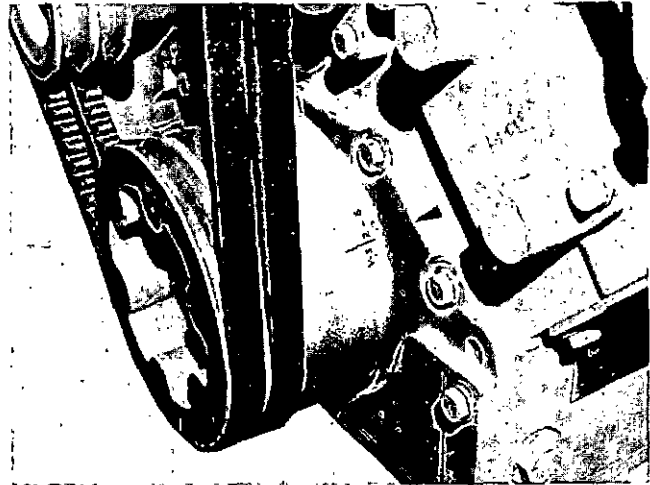
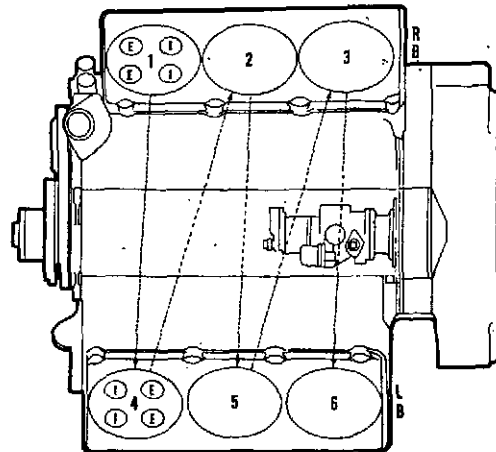
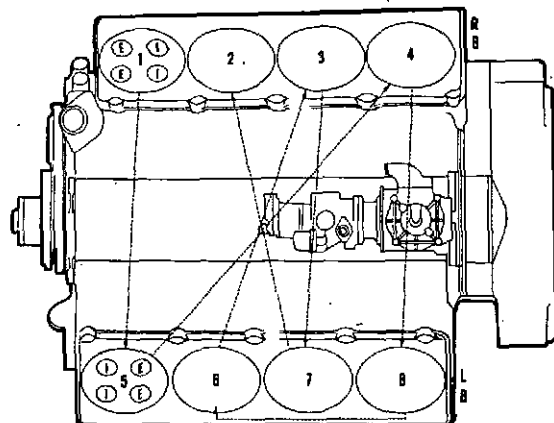

Fig. 5-26, V11913. Valve set marks
Fig. 5-27, V11461. V6 Firing order diagram
Fig. 5-28, V11462. V8 Firing order diagram
1. Turn crankshaft in direction of rotation until No. 1 VS mark appears on the vibration damper or crankshaft pulley. See Fig. 5-26 for location of valve set marks. In this position, both intake and exhaust valves must be closed for cylinder No. 1; if not, advance crankshaft one revolution. See Fig. 5-27, Fig. 5-28 and Table 5-5 for firing order.